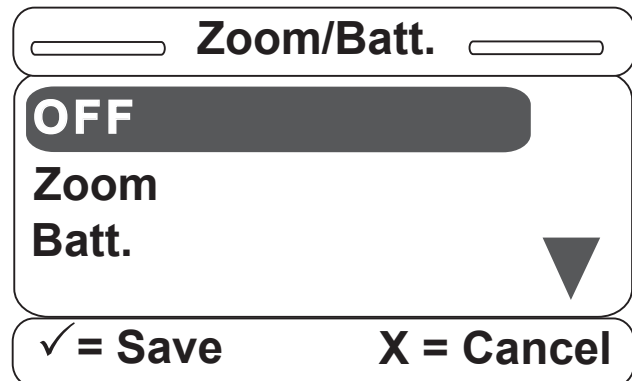

Figure S-6
6. Once the Zoom®/Batt. option is selected, Figure S-6 will be displayed. You can set this option to OFF, Zoom® or Battery Backup. Scroll up or down to select one of the three available items and hit "Enter" on the footboard panel.